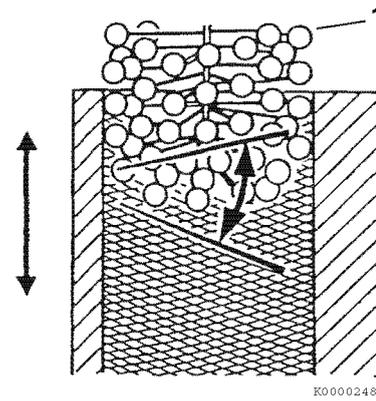

Figure 6-88
*Note: When honing a cylinder, with either a ridged hone or a ball hone (1, **Figure 6-88**), move the rotating hone up and down in the cylinder bore to accomplish a 30° to 40° crosshatch pattern (**Figure 6-88**). This will provide the ideal surface for the proper seating of new piston rings.*